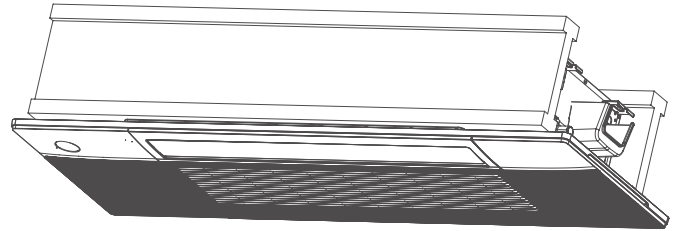

**Fig. 7.6**
3. Reinstall the control box cover you removed earlier in the installation by reinstalling the two screws. Then, flip the circuit breaker switch to the **ON** position. Refer to **Fig. 7.6** below.